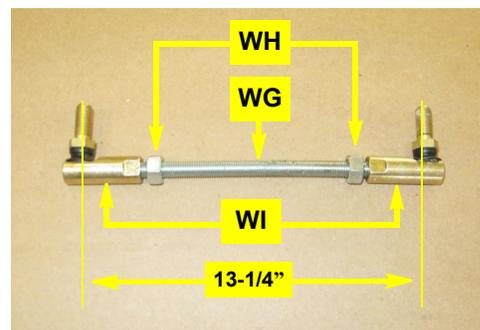

Figure 1d: Assembled threaded link rod
- d. Screw two nuts **WH** and the two swivel rod ends **WI** onto threaded rod **WG** to achieve a center-to-center stud measurement of 13-1/4" (Figure 1d). Leave **WH** loose until you complete linkage adjustment at step 3c.